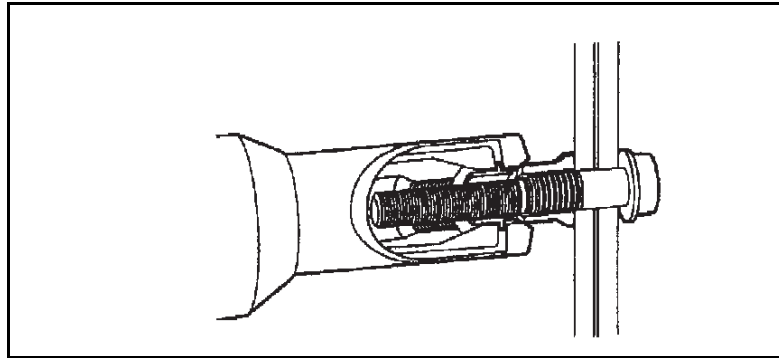

Figure 1.10 Place Installation Tool Over Fastener Pintail
- Place the Huck installation tool over the HP 8 fastener pintail (See Figure 1.10)